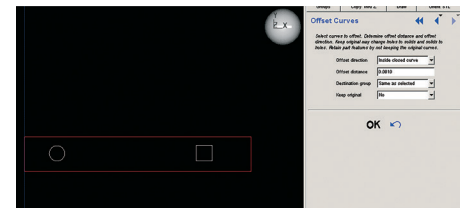

Figure 4: Offset Alignment Features
STEP 7: Offset the Alignment Features for clearance (figure 4).